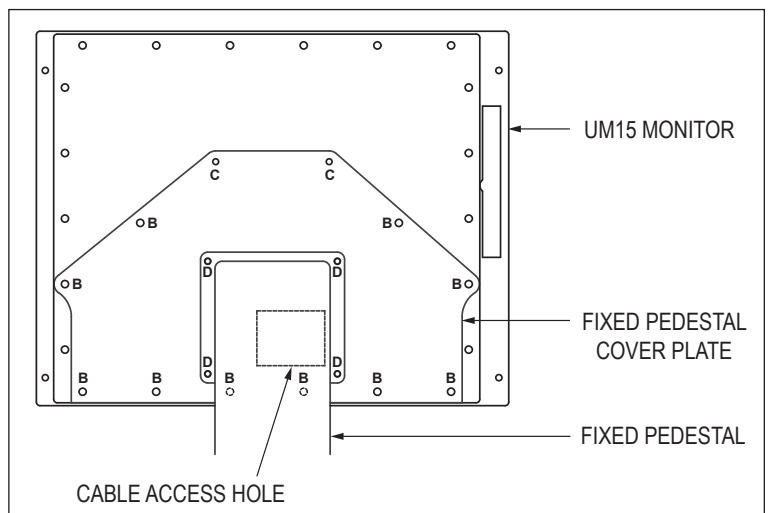

FIGURE 3
6. Refer to Figure 3. Route cables through the cable access hole on the fixed pedestal cover plate.
7. Install the provided two M4 sealing screws and washers in the locations marked "C" in Figure 3.
8. Use the ten 10-32 screws and washers that were removed in step 4 and install them in the locations marked "B" in Figure 3. Tighten all screws until the gasket is approximately 1/16" to 3/32" thick.
9. Refer to Figure 3. Route cables into the pedestal by positioning and supporting the monitor so that the cables exiting from the monitor can be easily routed into the top of the pedestal.
10. Attach the monitor to the pedestal using the provided four 10-32 acorn nuts and nylon washers in the locations marked "D" in Figure 3.